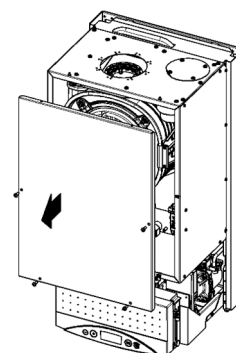

Fig. 2
5. Remove the front cover of the combustion chamber (fig. 2).